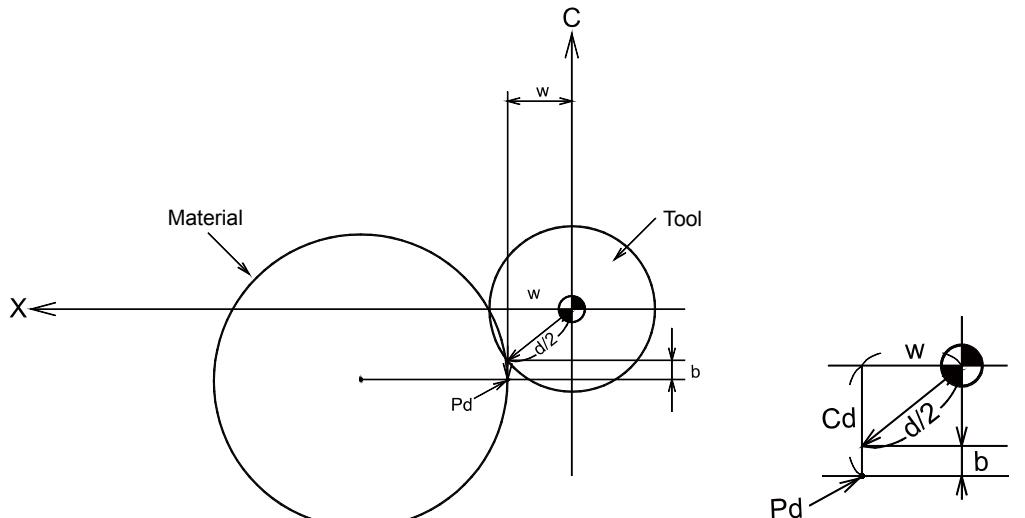

Figure 3
3. Determine the leeway b for the end position shown Fig. 3. Here, take value b as 2.0 mm.
Triangle in Figure 3